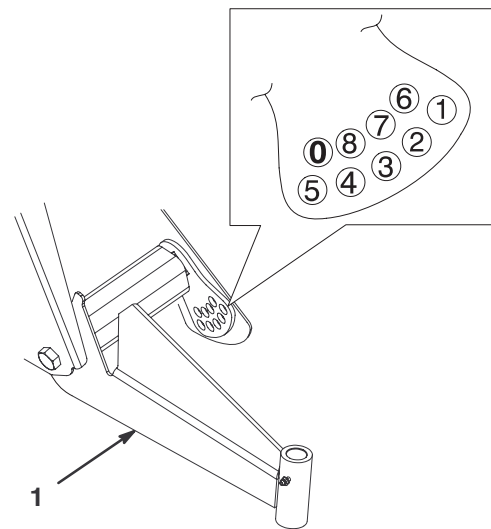

**Figure 34**
2. Remove the travel limiting bolt (Fig. 34).
3. Loosen the centering bolts in the front A-arm (Fig. 34).
4. Remove the ride height adjustment bolt (Fig. 34).
5. Rotate the front A-arm to the desired position (refer to the note below) and replace the ride height adjustment bolt (Fig. 34).
7. Replace the travel limiting bolt (Fig. 34).